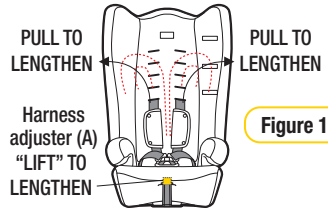

Figure 1
- Step 2:** “LIFT” the harness adjuster (A) to lengthen the harness (see figure 1) whilst grasping both shoulder harness straps and pulling. Ensure shoulder straps are pulled equally on each side.